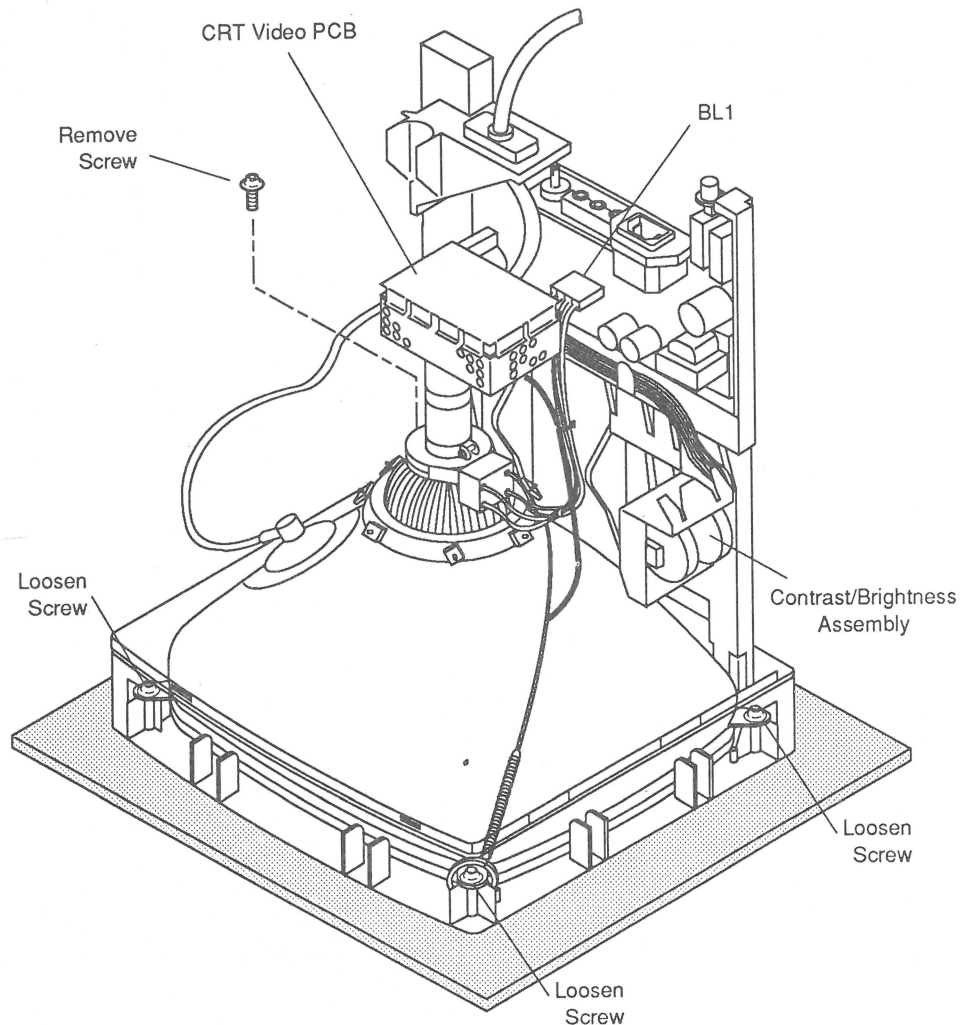

Figure 2-5 Main Deflection PCB
3. Remove the Phillips CRT mounting screw from the upper-left corner (**Figure 2-5**) of the CRT mounting bracket. Loosen but do not remove the other three Phillips CRT mounting screws (**Figure 2-5**).
5. Carefully disconnect connector BL1 from the main deflection PCB (**Figure 2-5**) and remove the twist tie holding the cable to the ground (black) wire.